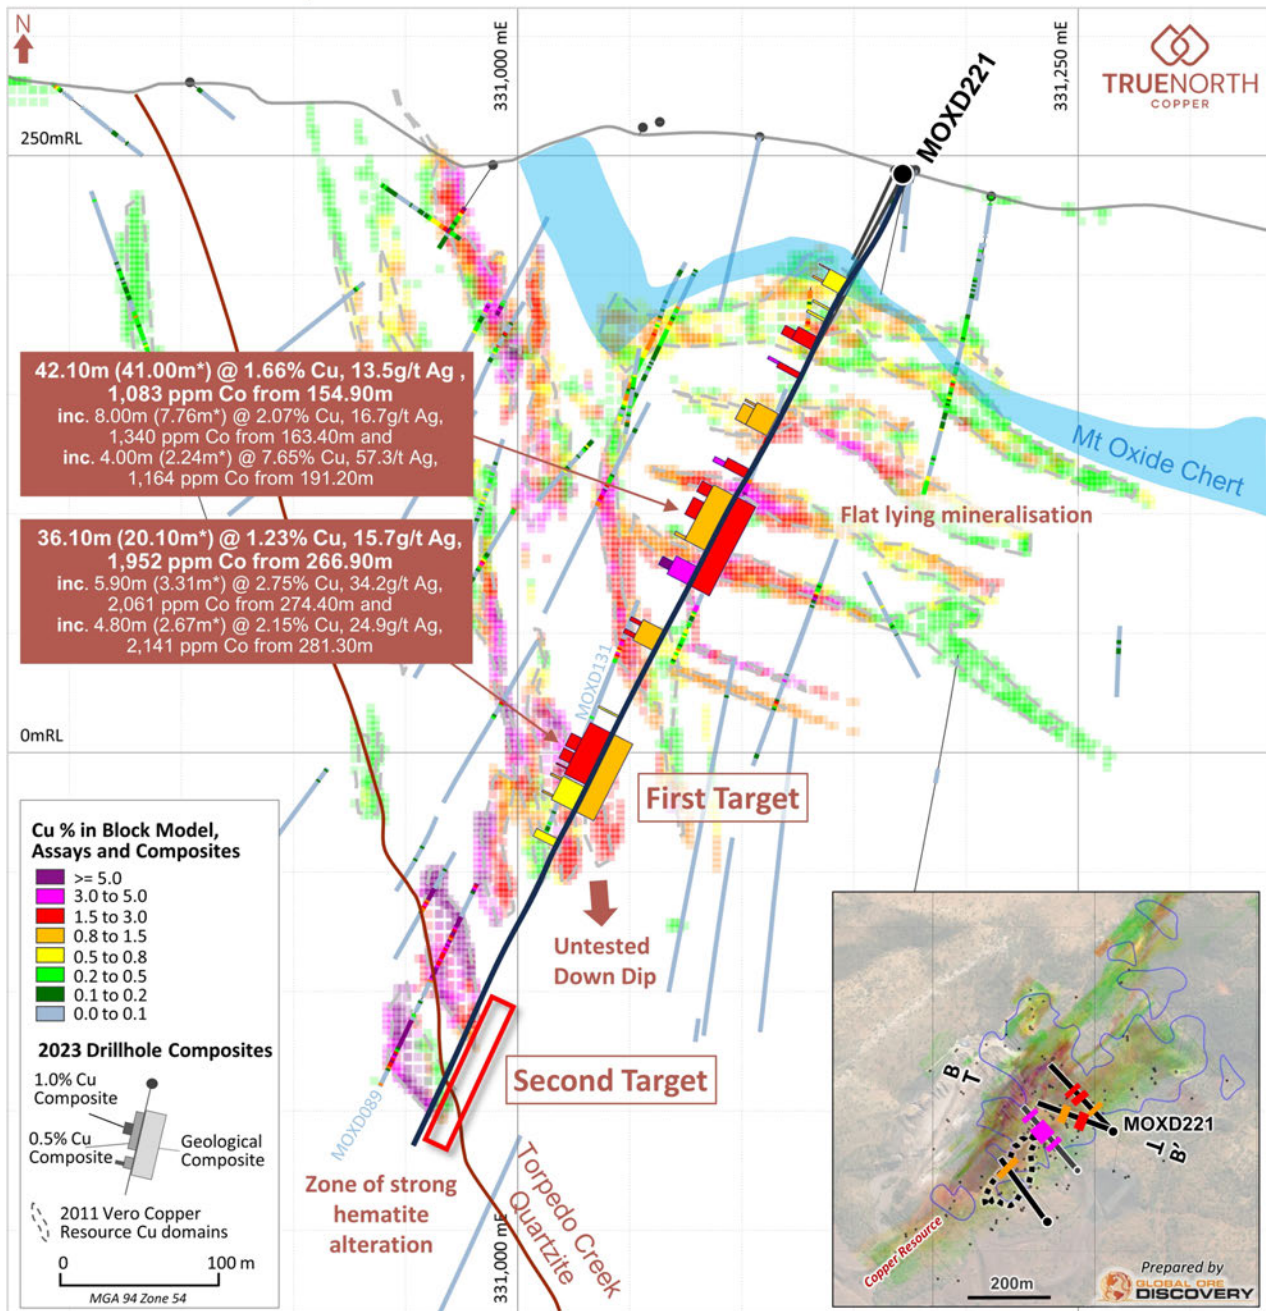

Figure 5. Cross section of MOXD221 (20m clipping window) showing the location of geological and grade composites.
- Above 200m down hole, MOXD221 intersected a series of shallow dipping stratabound stockwork vein zones of mineralisation (Figure 5, Table 2). These intersections provide confirmation of grade and continuity of the flat lying mineralisation. The best intercept from stratabound sulphide stockwork style veining returned.